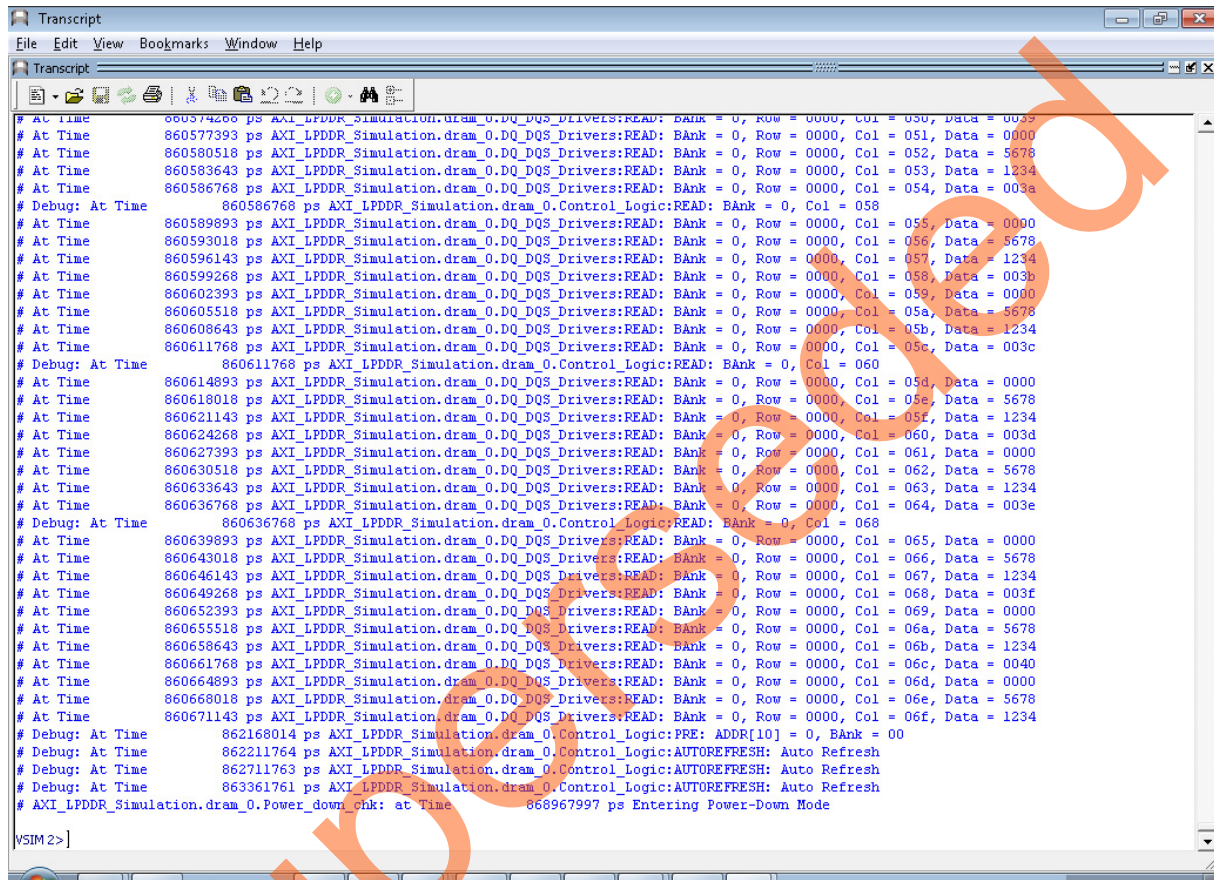

**Figure 10 • Organize Stimulus Files Window**
8. Ensure that the **Organize Stimulus files** window has the configuration as shown in Figure 10.